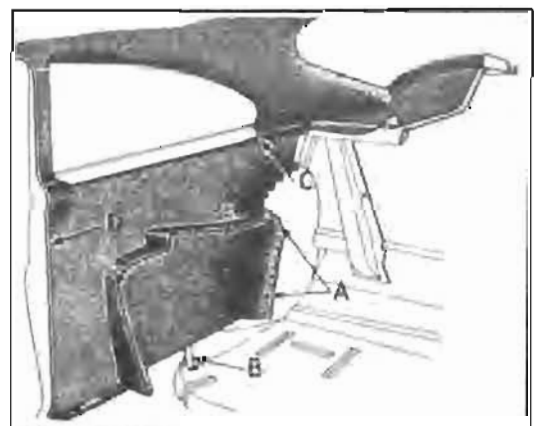

Figure 13-44—Rear Quarter Arm Rest and Trim
2. Carefully loosen arm rest material from cement and retaining tabs at wheelhouse area indicated at "A," figure 13-44.
5. Loosen cemented portions of trim at wheelhouse and floor areas. Also free top rear portion of trim panel from tabs which also secure headlining at "C," figure 13-44.